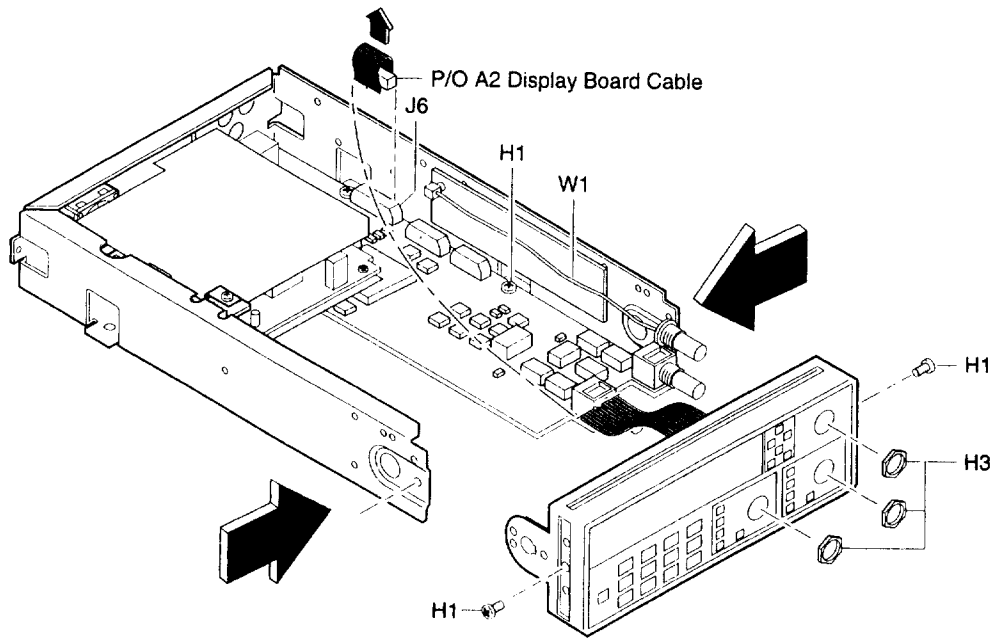

Figure 3-5. Front Bezel Removal
4 Disconnect the front bezel flat-ribbon cable (which is actually A2 Display Board's cable) from J6 of A1 Motherboard Assembly as shown in Figure 3-5.
- 5 Remove the BNC nuts (H3), shown in Figure 3-5, from the front panel using the 14-mm deep-socket spin tight.
- 6 For Counters with the optional 1.5 GHz or 3.0 GHz channel (Option 015 or 030), pull cable W1 out of the front bezel as shown in Figure 3-5. For the optional 5.0 or 12.4 GHz channel, remove knurled nut.
- 7 Remove the two screws (H1), located in the sides of the front bezel, using the TORX 15 screwdriver as shown in Figure 3-5.**
- 8 Loosen the screw (H1), shown in Figure 3-5, that helps secure A1 Motherboard Assembly to the chassis to make step 9 (the following step) easier.**